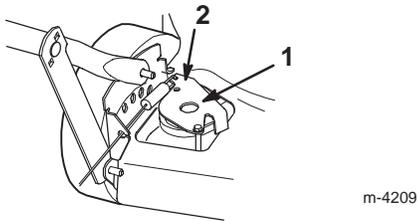

Figure 28
- Push the drive bracket down until it contacts the lawn mower, then hold it in place (Fig. 28).